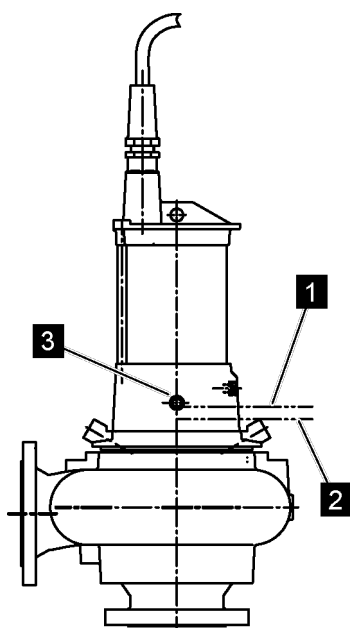

Fig. 76
- If oil is clear, add oil to level (Fig. 76/1). Close oil drain opening with screw plug with new, annealed copper seal (2).